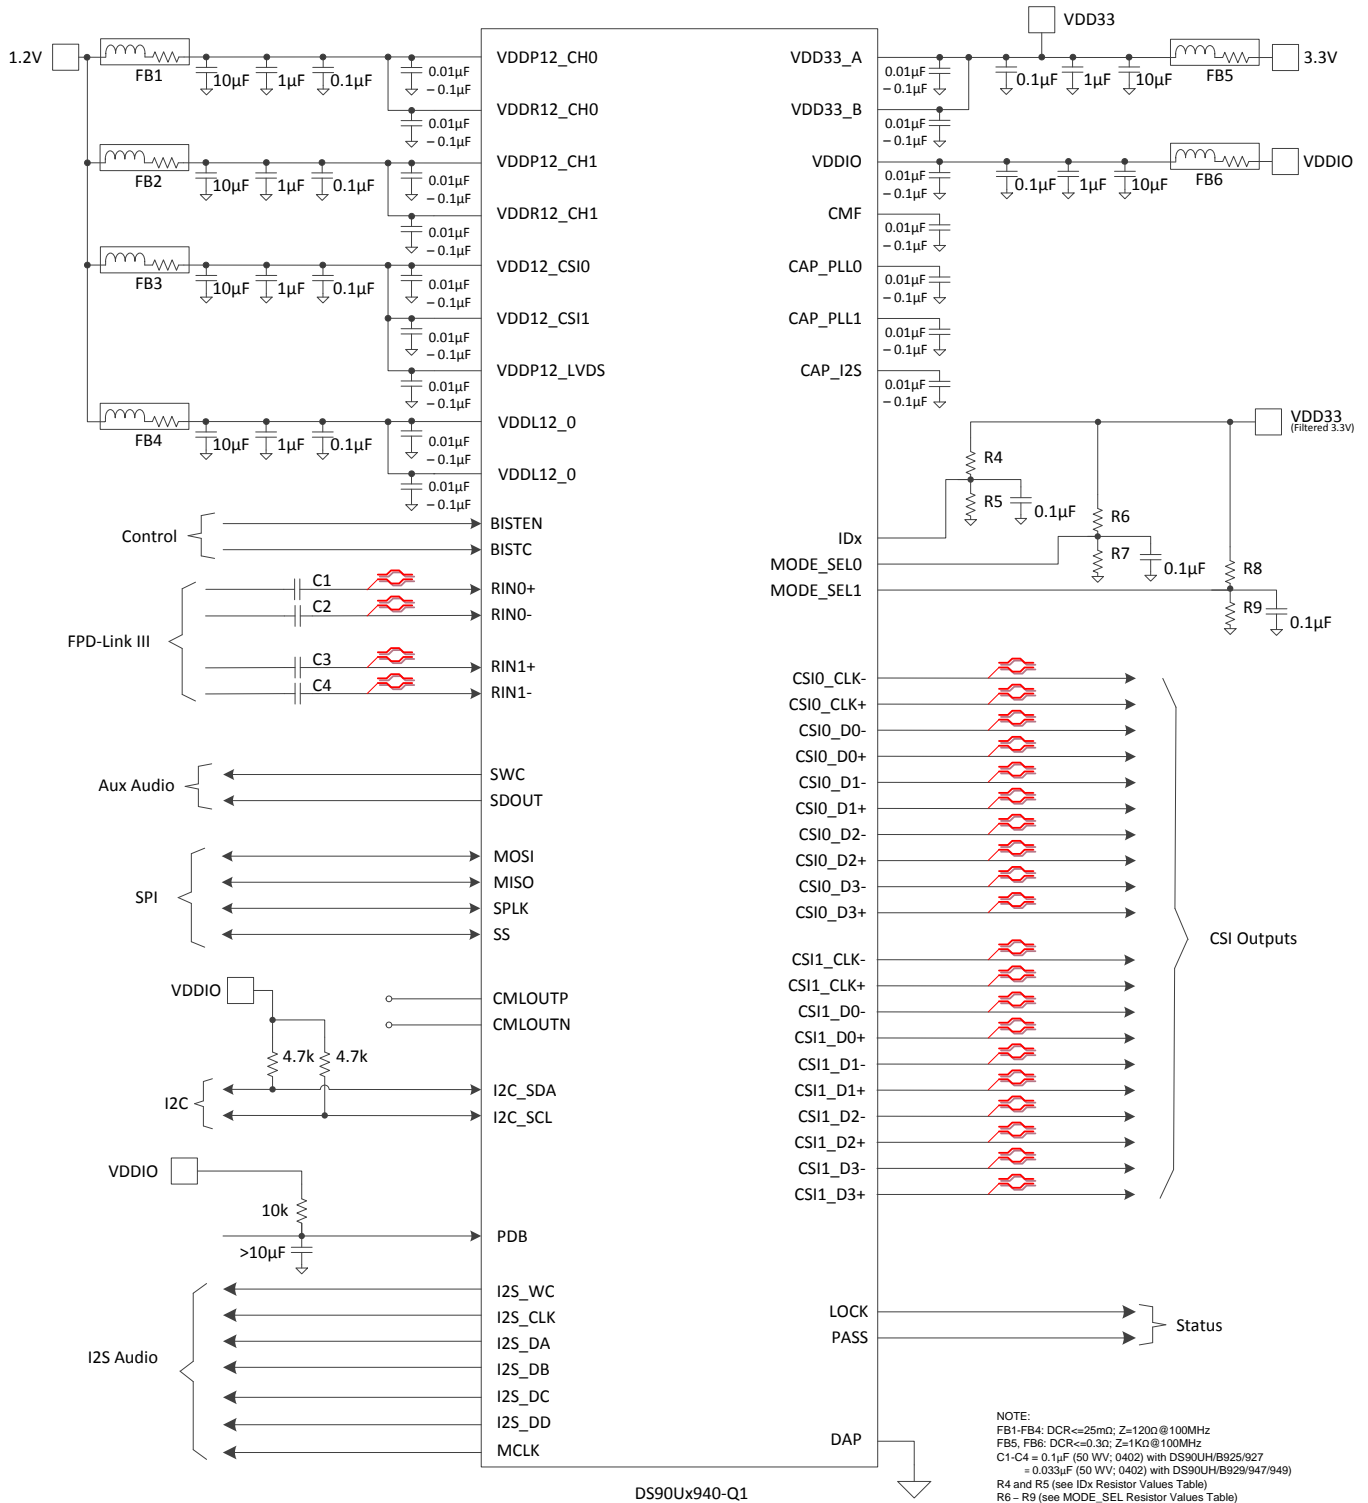

Figure 37. Typical Connection Diagram (STP)
Bypass capacitors should be placed near the power supply pins. At a minimum, four (4) 10μF capacitors should be used for local device bypassing. Ferrite beads are placed on the two sets of supply pins (VDD33 and VDDIO) for effective noise suppression. The interface to the graphics source is LVDS. The VDDIO pins may be connected to 3.3V or 1.8V. A capacitor and resistor are placed on the PDB pin to delay the enabling of the device until power is stable. See Figure 37 for a typical STP connection diagram and for a typical coax connection diagram.